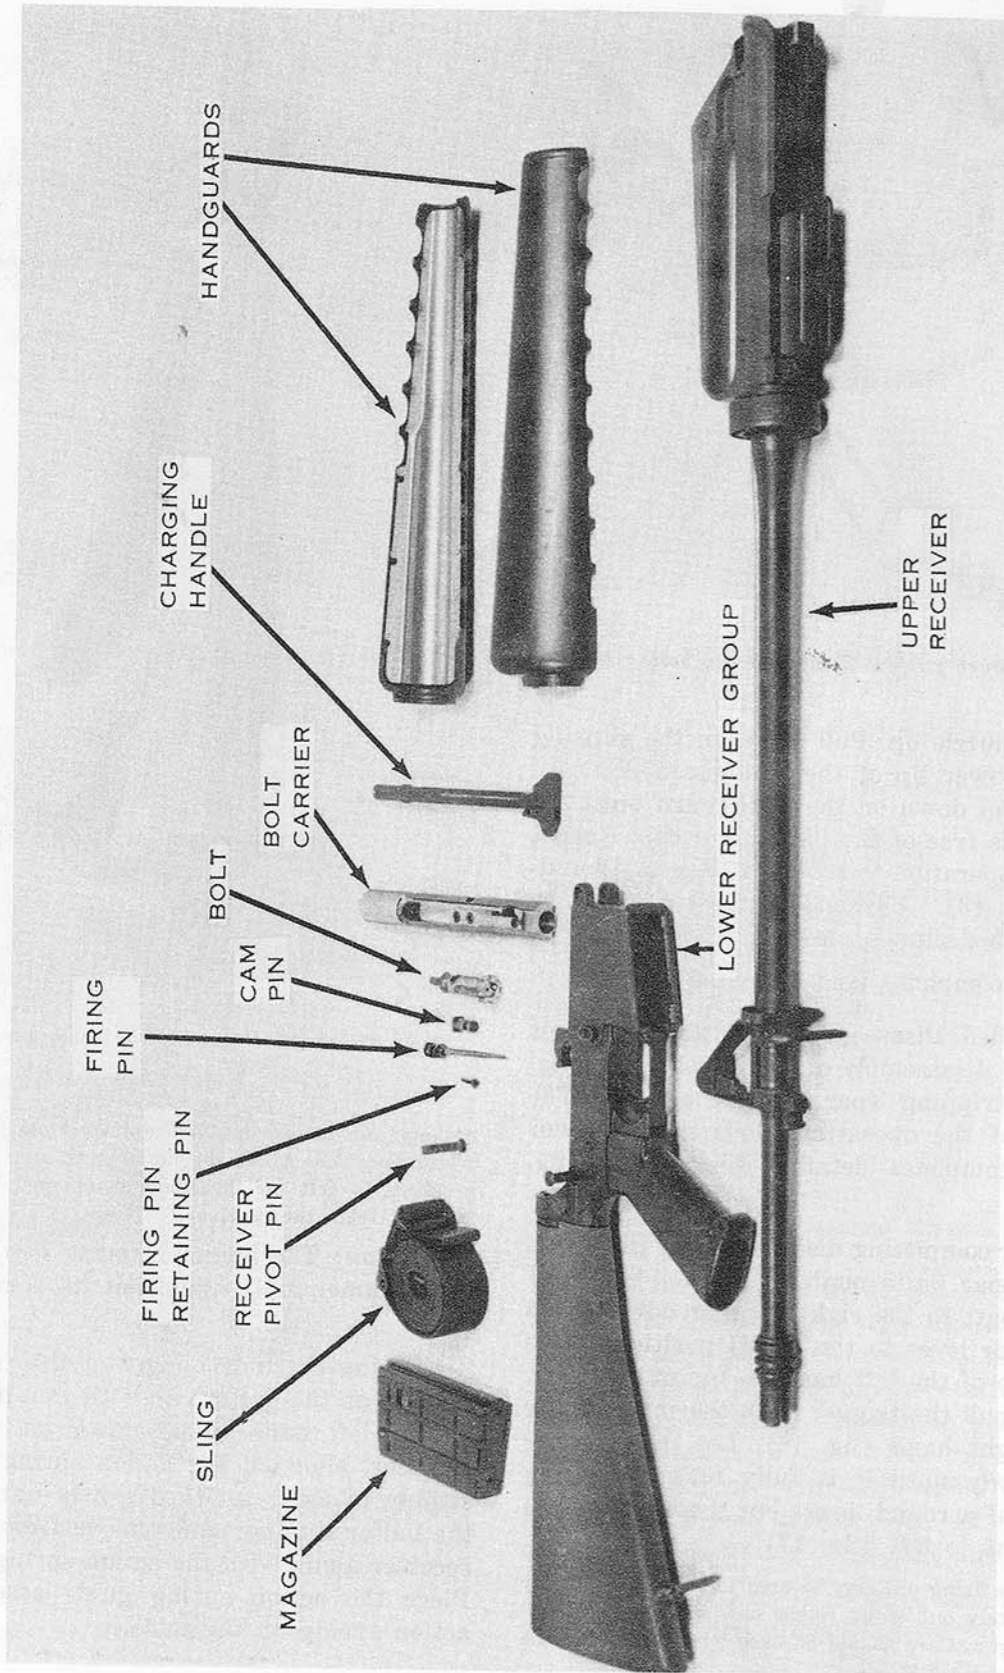

Figure 14. Field stripping.
g. This completes field stripping (fig. 14).
g. This completes detailed disassembly (figs. 14 and 24). The individual soldier has no need to disassemble the weapon beyond this point. Only qualified ordnance personnel are author-